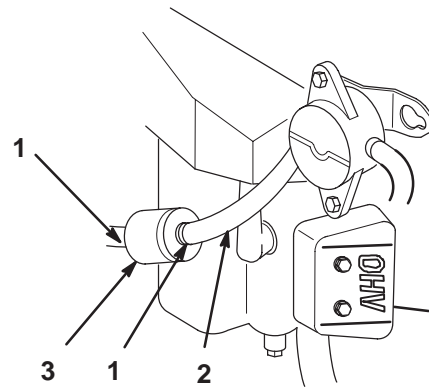

Figure 35
2. Close fuel shut-off valve at fuel tank (Fig. 35).
3. Squeeze the ends of the hose clamps together and slide them away from the filter (Fig. 35).
6. Open fuel shut-off valve at fuel tank (Fig. 35).
7. Check for fuel leaks and repair if needed (Fig. 35).